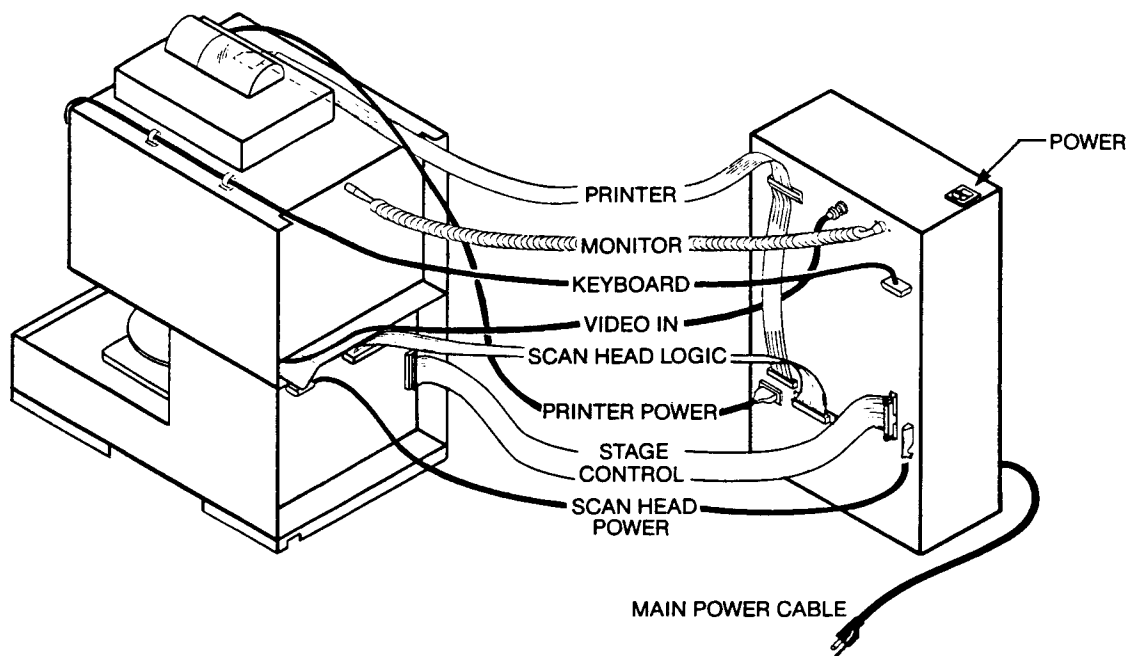

Figure 1-14. System Interconnections
2. Connect and secure all cables where indicated in Figure 1-14.
3. Plug in the main power cable to the back of the and into the proper AC voltage (see Figure 1-14).
If not already done, place the printer on top of the Video Monitor and connect the printer ribbon cable to the MEU into the connector labeled "PRINTER" and plug in the printer power cable from the printer to the MEU into the outlet labeled "PRINTER POWER". (Figure 1-14)